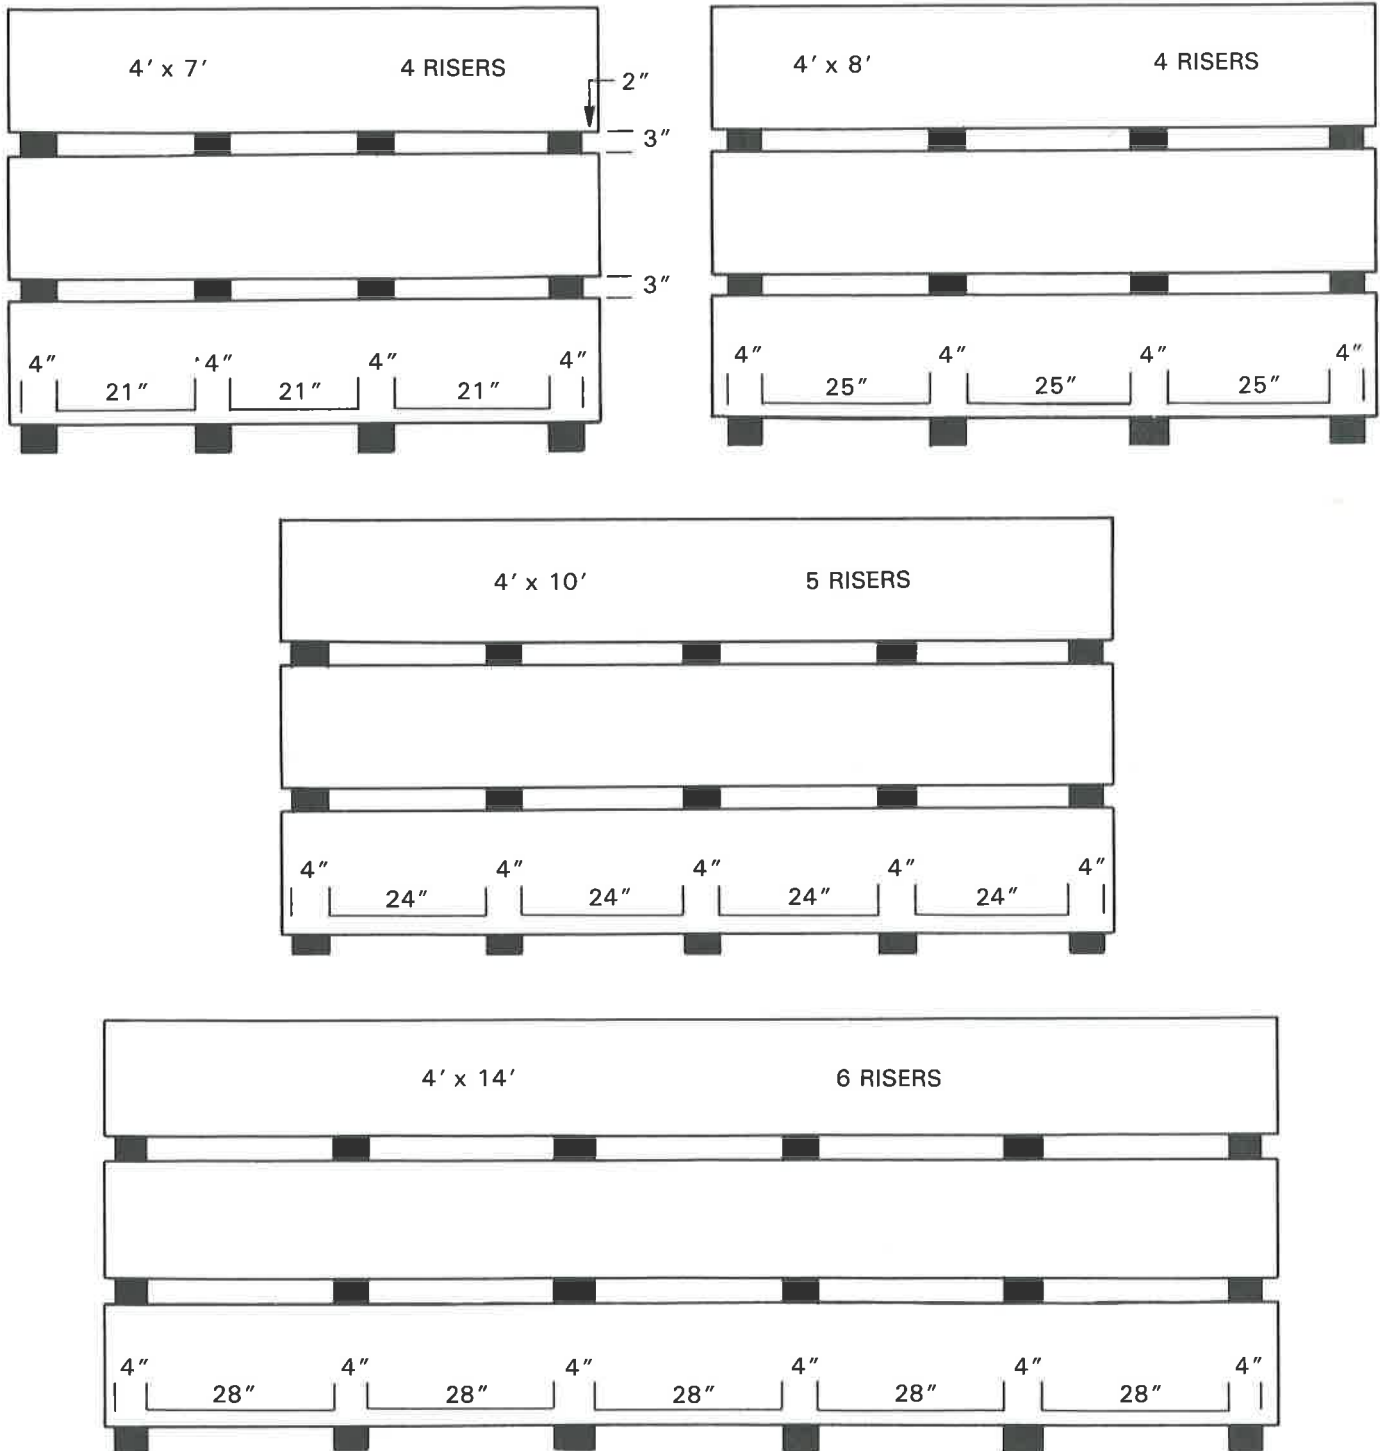

Fig. 4
**4.4.3.2** The recommended placement of risers for warehouse storage of various lengths of gypsum board is detailed in Figure 4. The horizontal distance between risers should not exceed 28 in. Humid conditions or long term storage may require the addition of extra risers.
**4.6.2** Restack the board, moving the risers about 4 in.-6 in. closer together than the recommended interval, shown in Figure 4. Add one or two evenly spaced risers as necessary to insure that the entire stack is supported. The sagging should be minimized within several days.